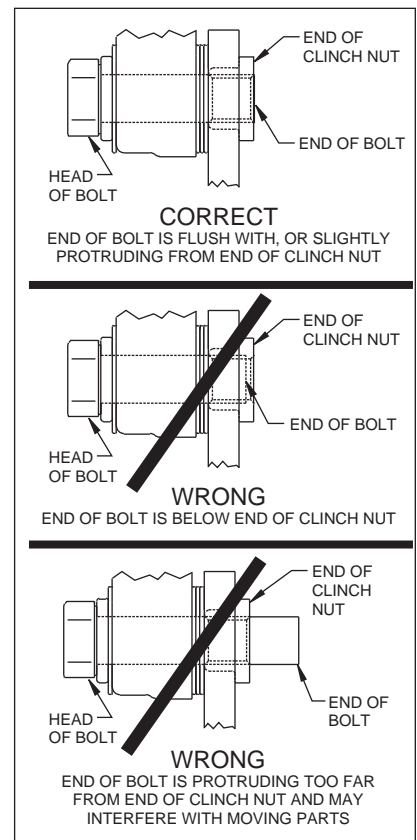

Figure 4.
- Align the correct hole pattern in the hat (2) with the stud pattern on the axle flange. **NOTE:** Some OEM and after market axles come with stud sizes larger than 0.50" diameter. Verify stud size and have a qualified machine shop drill the hats to the correct size, if necessary. Slide the hat/rotor assembly (2 and 3) over the wheel studs and against the axle flange face.
- NOTE:** Please reference the caution statement at the beginning of the assembly instructions. WITH THE BLEED SCREWS POINTING UP, mount one of the two calipers (7) over the rotor (3) and onto the caliper mounting bracket (1) using washers (8) and mounting bolts (9). View the rotor through the top opening of the caliper. The rotor should be aligned in the center of the caliper. If not, adjust the caliper by using 0.032 inch shims (10) by placing them between the caliper mounting bracket (1) and the caliper (7). Add as many shim washers (10) as necessary to achieve the correct alignment. **NOTE:** The end of the bolt must be flush with or slightly protruding from the head of the clinch nut. See Figure 4. Place spare shims (10) between washer and caliper mounting ear to achieve the proper mounting fastener configuration. Always use the same amount of shims on both the top and bottom caliper mounting bolts (9). Apply red Loctite® 271 to the mounting bolt threads (9), torque to 30 ft-lb. Safety wire the caliper mounting bolts (9). Repeat this procedure again for the second caliper.